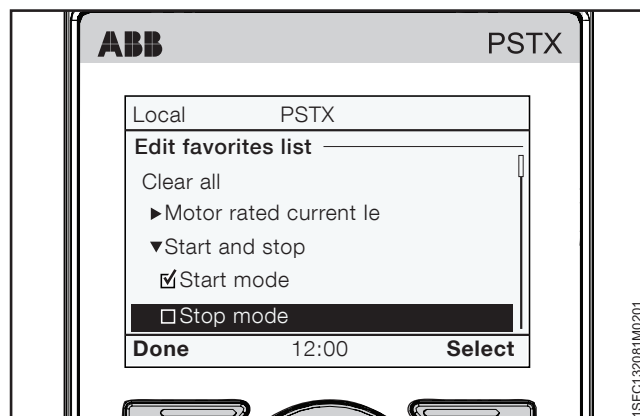

Figure 6.25
3. Push "Select" to select parameters. A check mark shows in front of the selected parameter. Push "Unselect" to unselect the parameter. Push "Done" to save and exit. See **Figure 6.25**.